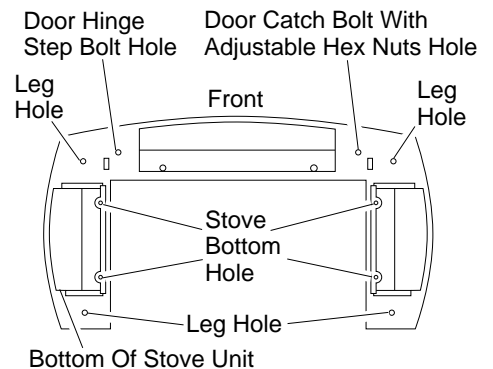

**Figure 7 - Laying Down Stove On Side**
- (1) - Hardware kit bag with fasteners
6. Carefully lay stove body on back to attach bottom components to stove body (see Figure 7). Rest stove on drop cloth or blanket to avoid scratching stove edges.